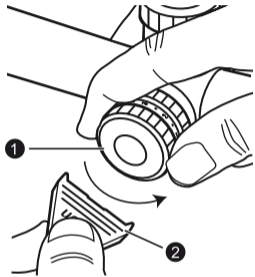

Fig. 3-1
- ① Hold the rheostat intensity dial tightly and turn the battery-chamber cover ① counter-clockwise with the battery-chamber cover opener ② (Fig. 3-1).